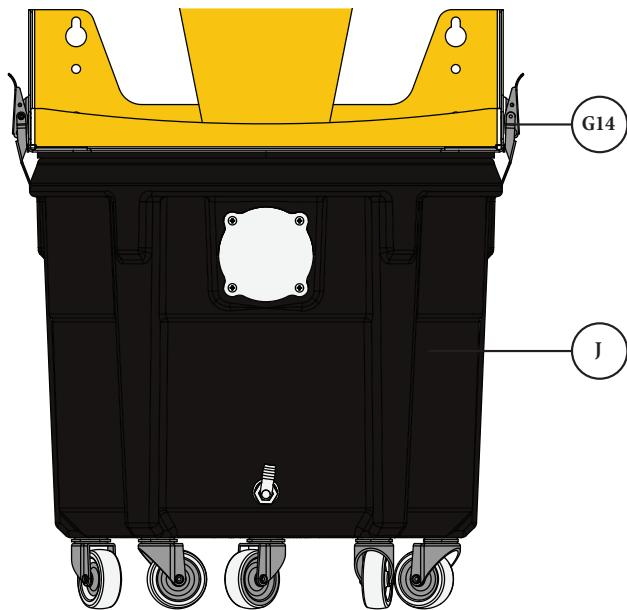

FIG. 31
- 31** Center the Drum Assembly (J) underneath the Wall Bracket (F) and lower the Latches (G14) so that they hook underneath the rim of the Drum (J) [FIG. 31]. The Latches (G14) can then be closed to lift the drum up from the ground and seal the dust collector for operation.